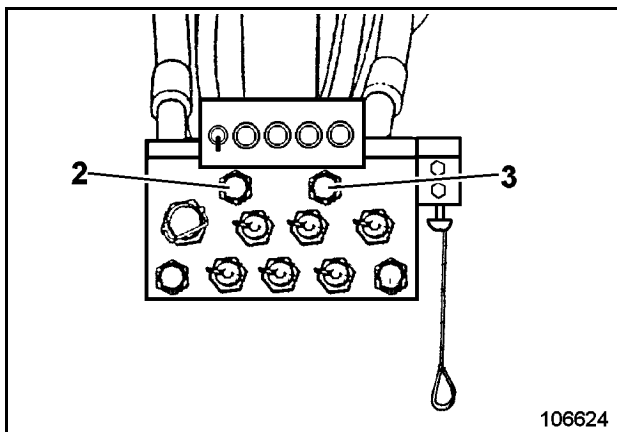

Fig. 3-44:
- Fill in cooling liquid with the service station (Fig. 3-44:) through:
- express coupling (2) for the lefthand cooling circuit,
- express coupling (3) for the righthand cooling circuit.